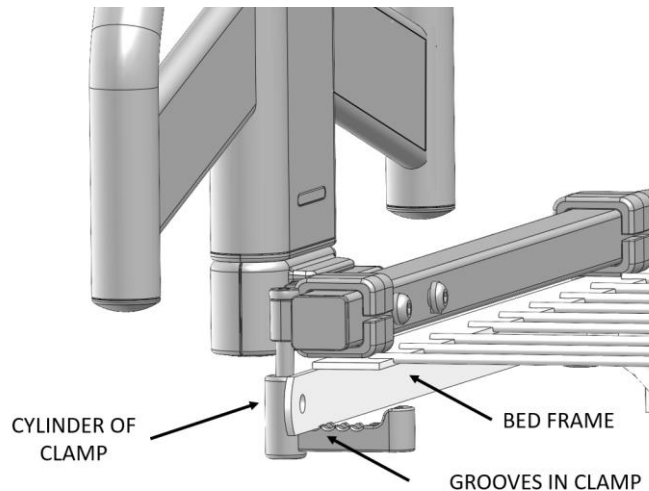

FIGURE 5
4. Secure **CLAMPS** to **EXISTING BED FRAME** using included **WRENCH** as shown in Figure 5.